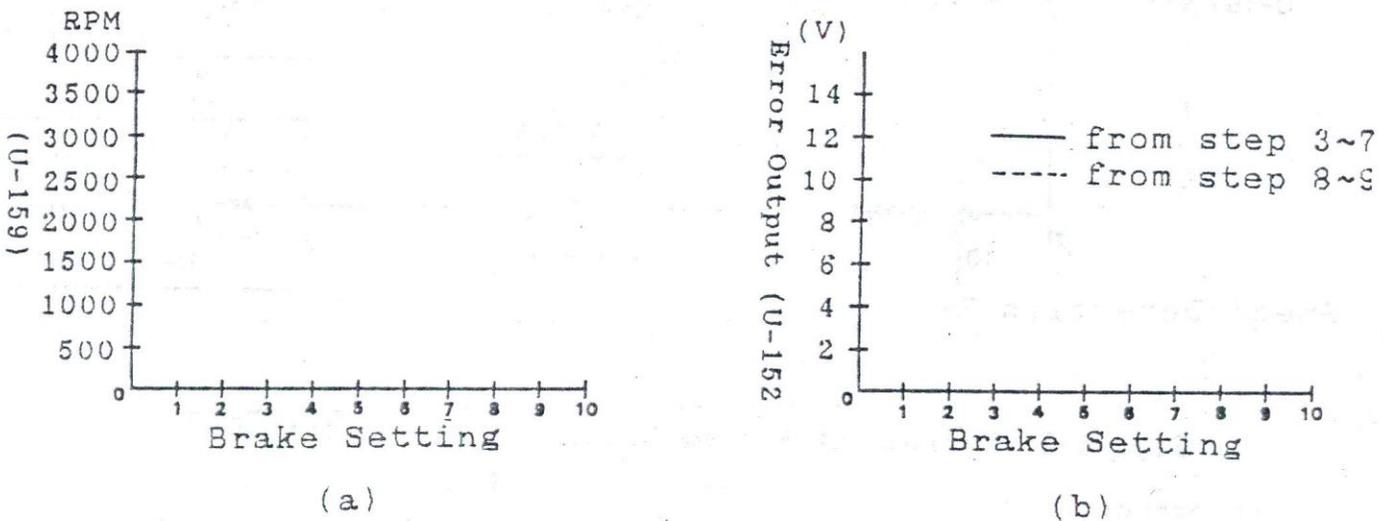

Fig. 5-4 Constructing Graphs for the Results
9. Vary the brake setting and at each time, record the value on the speed meter and the associated error voltage. Construct graphs of speed VS. brake and error voltage VS. speed (See Fig. 5-4(a) and (b)).